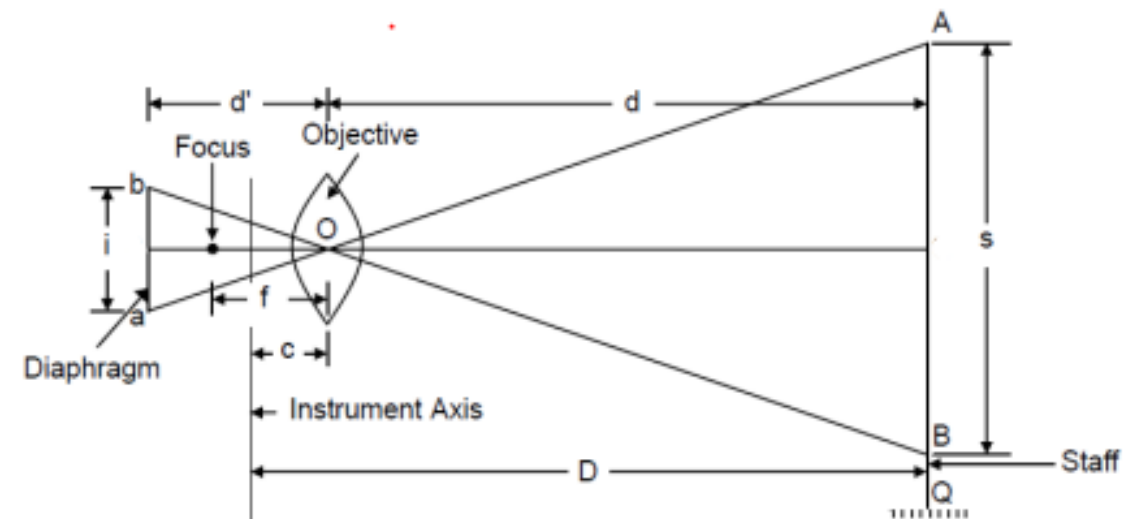

Fig 3
- The basic principles are shown in Fig.3. in which it is assumed that the telescope is level and the staff is vertical.